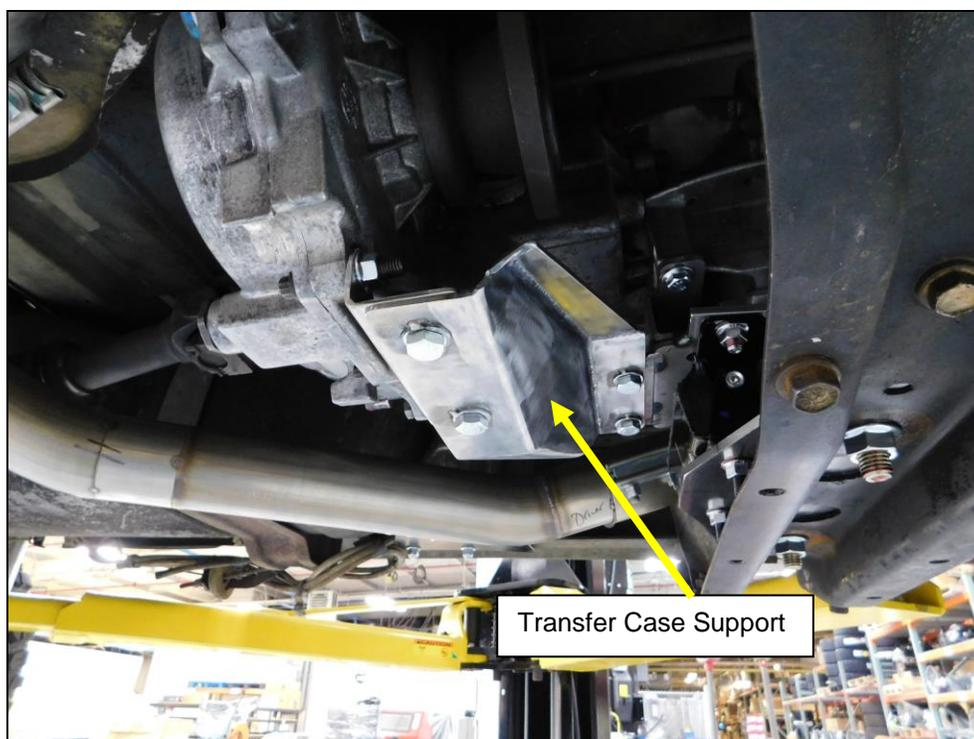

Figure 14
11. Install the transfer case support bracket between the adapter bracket and upper bracket (B). Install the M10 x 25mm flange bolts and flange nuts. Make any necessary adjustments and tighten the hardware (**Figure 14**).